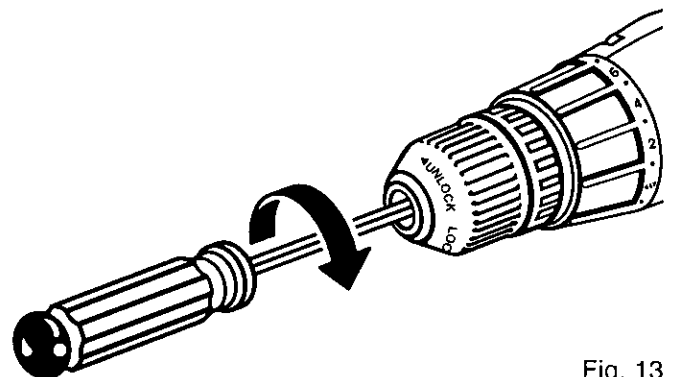

Fig. 13
- Tap the allen wrench sharply with a mallet in a clockwise direction. See Figure 13. This will loosen the screw in the chuck for easy removal.
- Open chuck jaws and remove allen wrench. Remove the chuck screw by turning it in a clockwise direction. See Figure 13. **Note:** The screw has left hand threads.